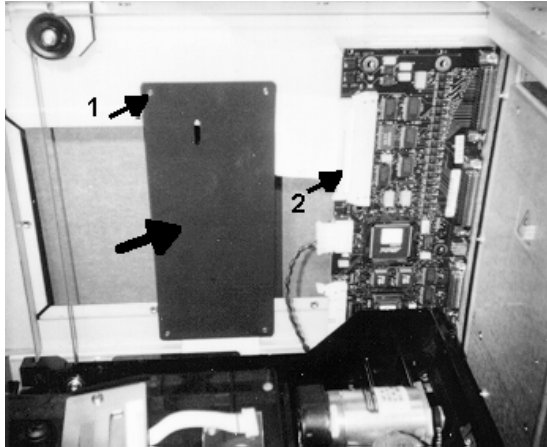

Figure 5-50. Removing the SCSI Protector
5. Gently pull the SCSI cable protector off its plastic standoffs (see Figure 5-50 (1)).
6. Disconnect the SCSI cable at the SCSI repeater/converter PCA (see Figure 5-50 (2)).